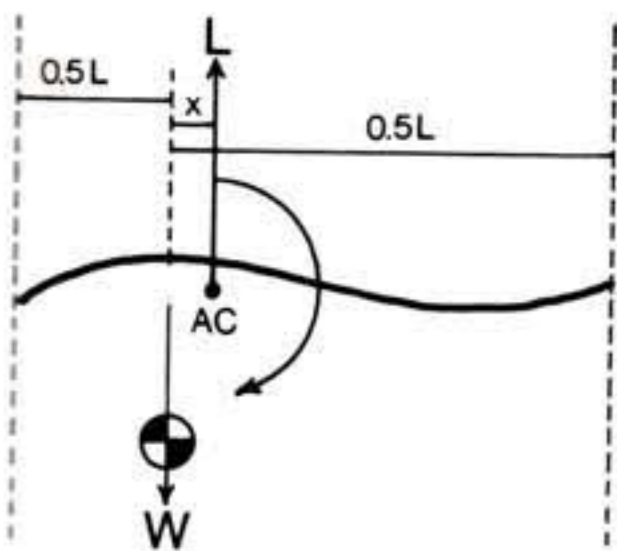

Fig. 5 CG relation to AC on a hang glider.
5.1 Whilst a rigid aeroplane with fixed CG and aerodynamic control surfaces can whittle trim drag down to almost nothing, a hang glider cannot indulge in these luxuries of pitching precision. Fig.5 shows that for safety the net pitching moment on a hang glider ought to be positive and thus the CG in trimmed flight is forward of the AC. Dimension x exactly damps the pitching moment to zero. The main reason for wanting the wing to positive pitch by itself is that in radical attitudes the CG may not be where it is supposed to be, so it would be inconvenient to say the least to have an unloaded kite continually trying to nose down.
At any rate the old standard was shown to be pretty doubtful in terms of pitch stability out of angles of attack that could be effectively controlled by weight shift. T on the graph for Hang gliders represents a well defined trim angle of attack. Note that at T there is zero pitching, according with the aerodynamic principle shown in Fig.5.